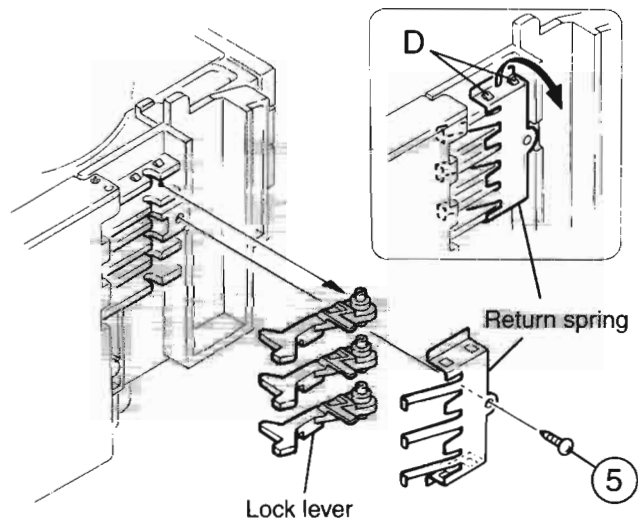

Fig.4
8. From the left side face of the chassis assembly, remove the one screw 5 retaining both of the return spring and lock lever(See Fig. 4).
9. By removing the pawl at the section "D" fixing the return spring, dismantle the return spring(See Fig.4).
10. Remove the three lock levers(See Fig.4).